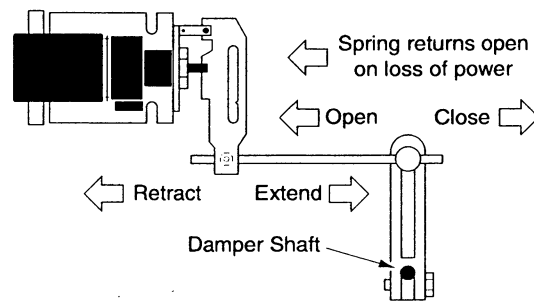
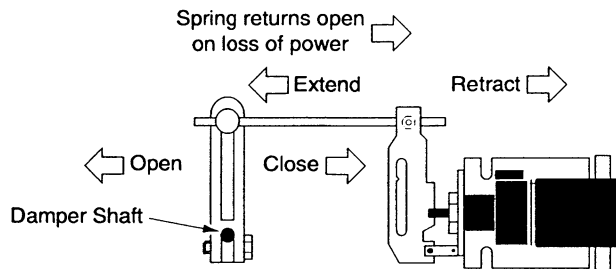

Figure-12 Dampers Open When Actuator Retracts (Spring>Returns Open on Power Loss).
Figure-13 Dampers Open When Actuator Extends (Spring>Returns Closed on Power Loss).
- a. Determine, from the system requirements, if the damper should spring-return to the open position (refer to Figure-12) or closed position (refer to Figure-13) whenever power is lost to the actuator. An actuator is normally linked so as to retract (spring-return) to the damper's fully open position (heat position).